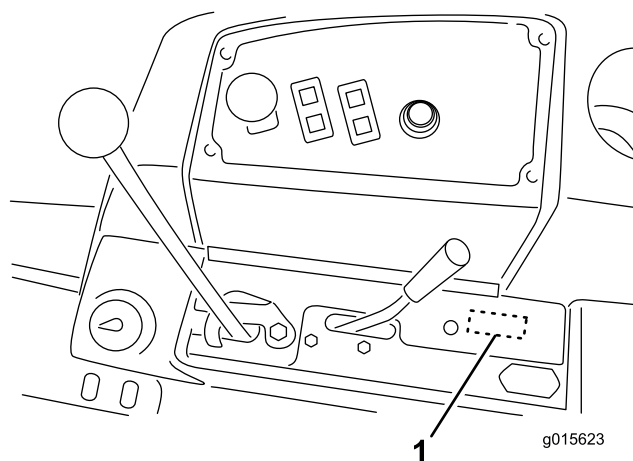
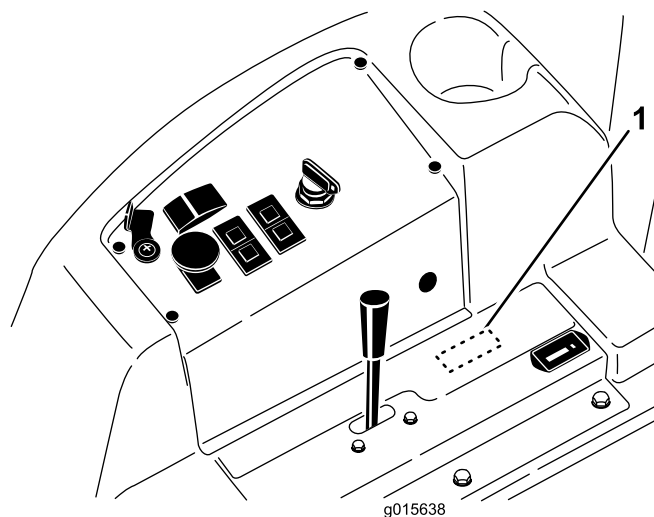

Figure 8
Figure 9
17. Remove the knock out plug, under the decal, in the lower control panel (Figure 8 and Figure 9).